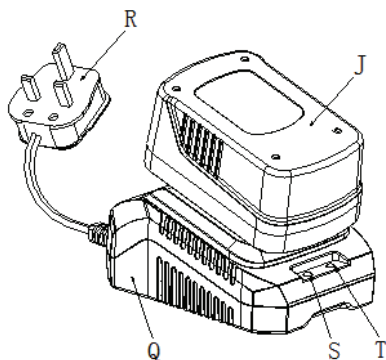

Fig 2
Charge the Battery (FIG 2)
1. Insert the plug (R, Fig.2) into a 240V AC power outlet. The green LED power light (S, Fig.2) comes on, indicating the charger is ready for use.
2. Insert the battery pack into the receptacle in the charger (Q, Fig.2), making sure it is well sealed in the charger. The red LED light (T, Fig.2) will come on, and the green LED light (S, Fig.2) will shut off at the same time, indicating the battery is correctly seated and on charge.
3. If the red LED light (T, Fig.2) doesn't come on, and the green LED light (S, Fig.2) is still on, the battery pack is too hot and can not be charged. Remove the battery and allow it to cool for 30 minutes and then re-insert it.